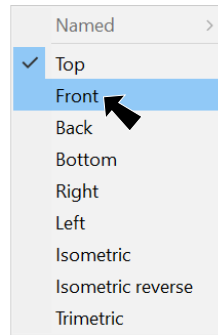

Fig. 13
Step 5. Change **CPLANE** to **Front**, **Fig. 13**. To change, click **CPLANE** in Status bar at bottom of the graphics window and click **Front** from the menu.